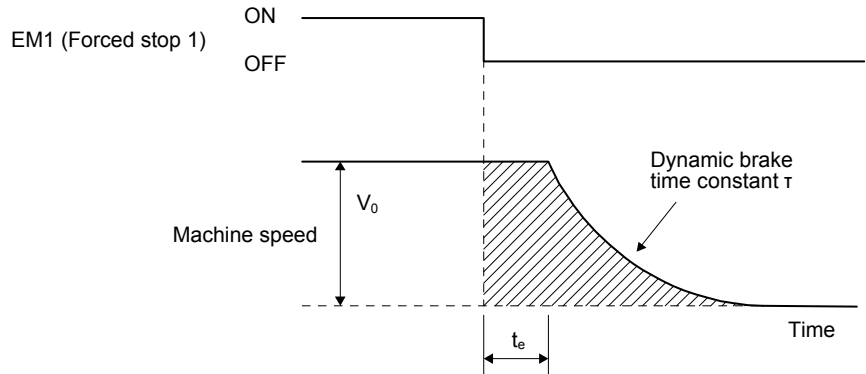

Fig. 10.3 Dynamic brake operation diagram
(1) Calculation of coasting distance
Fig. 10.3 shows the pattern in which the servo motor comes to a stop when the dynamic brake is operated. Use equation 10.4 to calculate an approximate coasting distance to a stop. The dynamic brake time constant τ varies with the servo motor and machine operation speeds. (Refer to (2) in this section.)